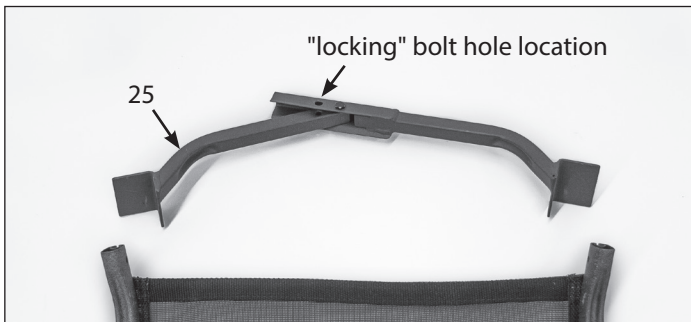

FIGURE 10 - Remove "locking" bolt and hinge front brace
e. Remove the factory installed "locking" bolt and locknut from the front hinged brace (25), and set aside. Hinge the brace slightly to aid in assembly. **SEE FIGURE 10.**